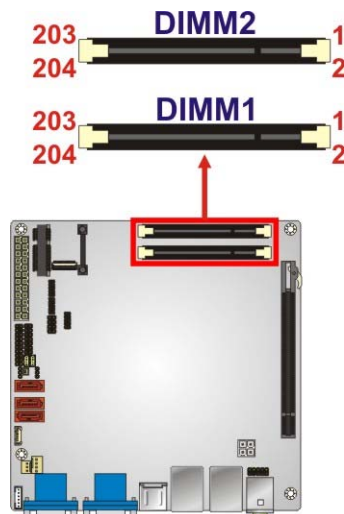

Figure 3-7: DDR3 SO-DIMM Slot Locations
- CN Location:** See **Figure 3-7**